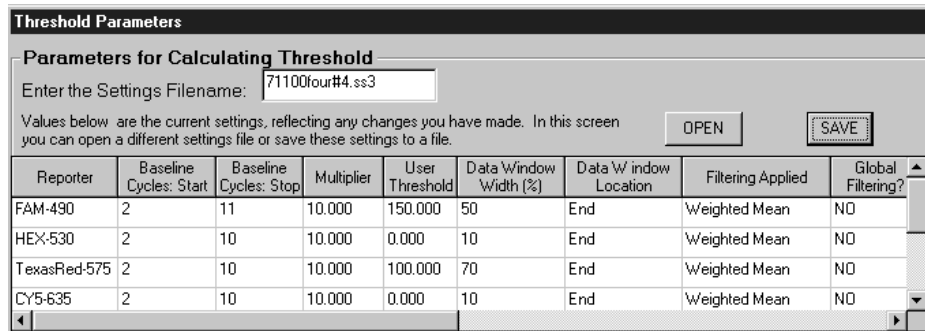

Fig. 7.16. Open/Save Threshold Cycle Settings.
**Note:** The check box acts as a toggle bringing up/closing the Threshold Parameters dialog box (Figure 7.16).